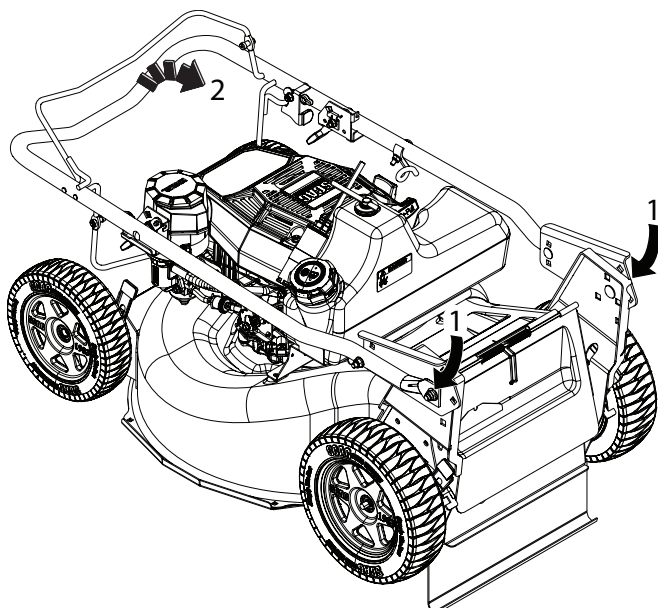

Figure 1-2. Lift the Handle Bar Assembly
2. With help from an assistant, loosen the two (2) 3/8-16 elastic flange nuts identified and raise the handle bar assembly. See Figure 1-2.